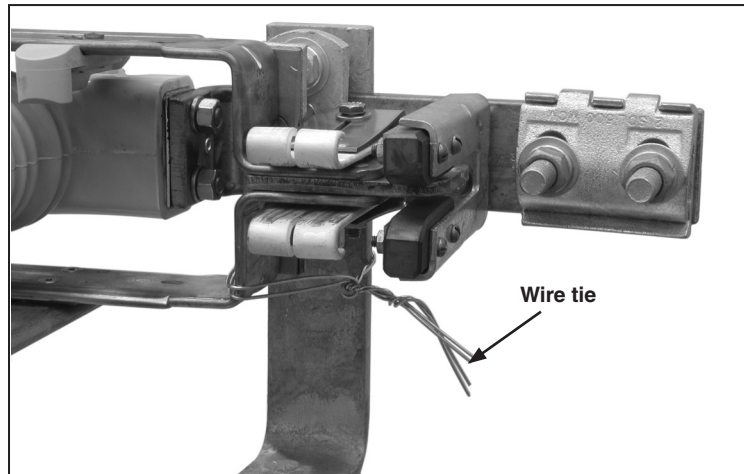

Figure 11. Tie the switch blade to the main contacts.
STEP 9. To minimize time-consuming final adjustments, make sure the switch is fully closed. Tie the switch blades to their stationary main contacts. See Figure 11.